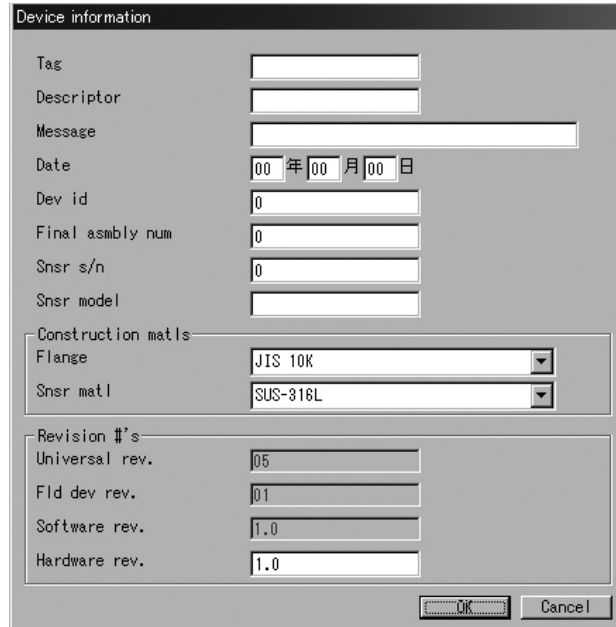

Fig.67
- ① Click on "Setup (S)" at top-level menu of the screen, select "Device information", and click on again.
- ② A message box like the one shown in Fig. 67 appears. Transmitter information are set up at this window.